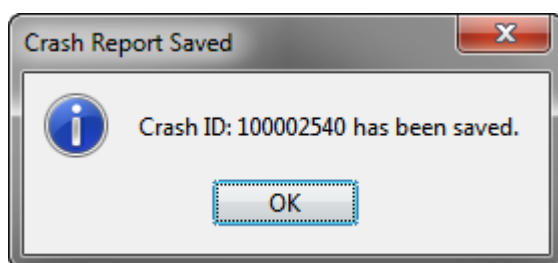

Figure 72. Crash Report Saved Message
3. Enter the DMV Crash ID and click **OK**. The report downloads to your local database. The **Crash Report Saved** message displays, as shown in Figure 72.